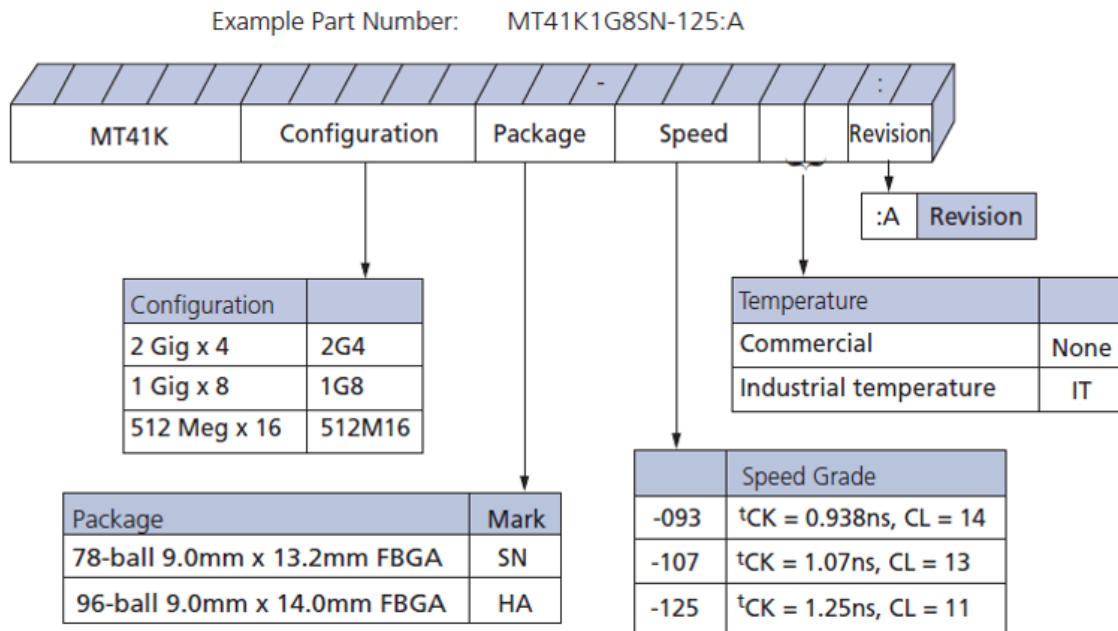

Figure 5-3: DDR Example Part Number
Note: Content of Figure 5-3 used with permission by Micron Technology, Inc.
- The Micron data sheet in Figure 5-3 shows an example part number and how to identify specific information of interest. For MT41K1G8SN-125:A: